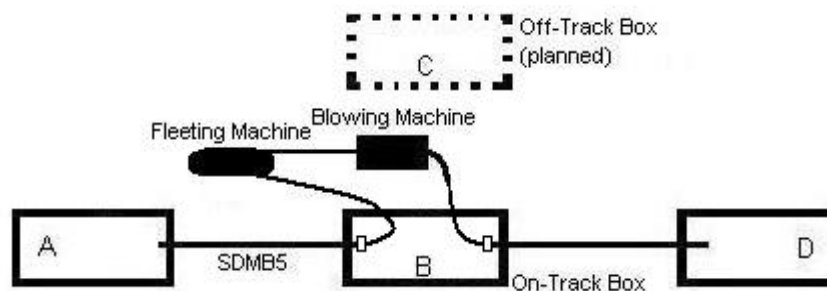

Figure 17 – Mid-Point Installation at On-Track Box
1. Install cable from on-track box B (see Figure 17) using mid-point installation practice as described in section 6.1.2.